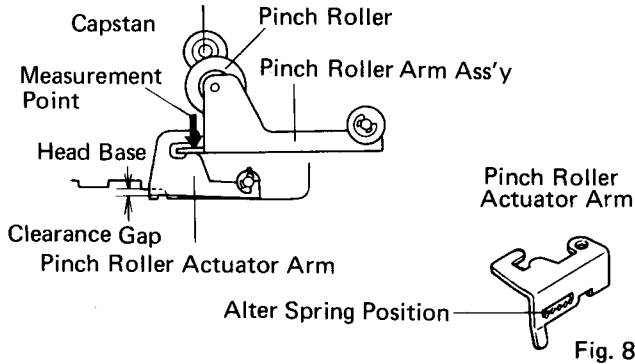

Fig. 8
3. If the value measured under (2) is outside the 350 to 450g range, alter the pinch roller actuator arm spring setting (see Fig. 8).